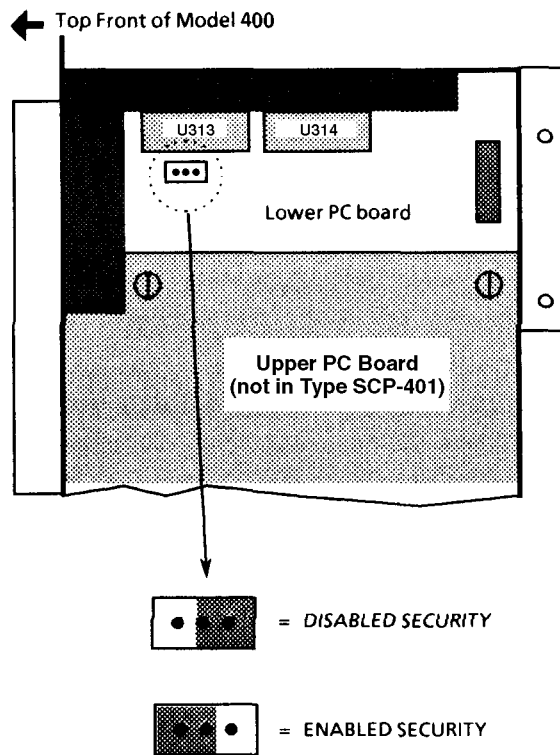

Figure 6.4 Hardware Security Jumper
Uses: Internal jumper, located on a three-pin header. The jumper is accessed by removing the Model 400's side plate. Refer to Figure 6.4.
The security jumper bridges the center pin of the three-pin header to *either* the left or right pin (see Figure 6.4). When the security jumper is in the **ENABLED** position, all ladder memory is protected from alteration of any kind. When **DISABLED**, ladder memory is accessible to the extent that other security methods allow. The **WRITE PROTECT LED** (Section 4.2) illuminates when the jumper is enabled.
4. Using a needlenose pliers, place jumper in the desired position (**ENABLED** or **DISABLED**) as shown in Figure 6.4. **DO NOT LEAVE THE JUMPER OFF OF THE HEADER.** It must be in one of the two positions.